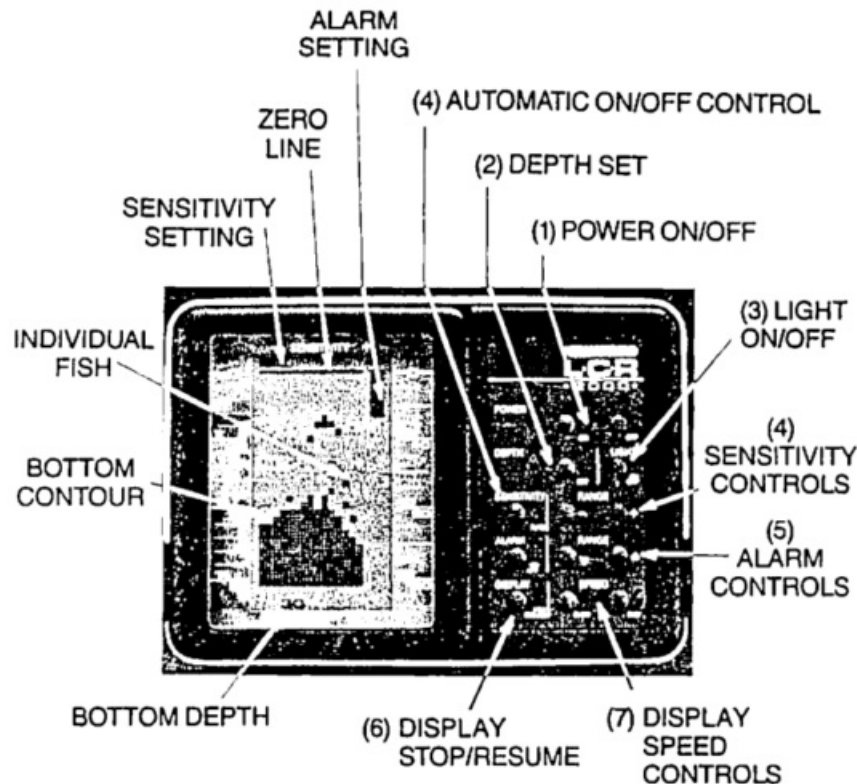

FIGURE 12
1. **Power:** (See Fig. 12) To activate the unit, depress the Power “On” switch. The LCR 2000 always comes on in automatic mode. In the automatic mode, the unit will find the bottom by varying the sensitivity and selecting the proper depth range for a satisfactory return. Also, the display below the bottom is blacked out to make the display easier to read. To turn the unit off, depress the Power “Off” switch.
selected. The word Auto will appear in the upper right-hand corner of the display anytime the unit is in the automatic mode. The sensitivity bar at the top of the screen (See Figure 12) will increase or decrease automatically indicating the amount of sensitivity being used. In deeper water or soft bottom conditions, this bar will increase indicating more sensitivity. In shallow water or when a hard bottom is being read, the sensitivity needed to achieve a good return will be less. Also in the automatic mode, the unit will black out the display beneath the bottom line.